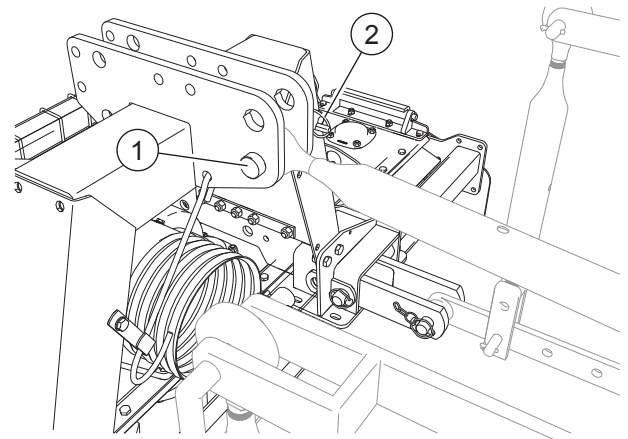

FIG. 25
- Move the tie-rod of the power-lift to the three-point hitch (“Fig. 25”). Set the tie rod so that the machine stays on the ground. Insert the attachment pin (1). Lock the pin with the trigger split pin (2), part of standard equipment.